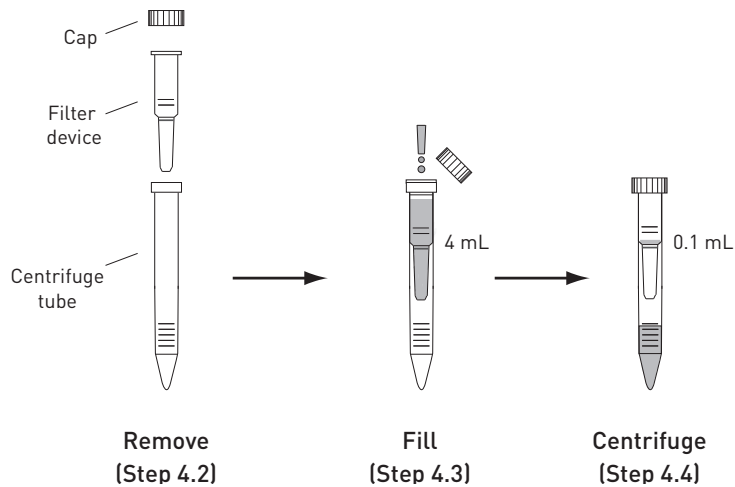

Figure 5 Wash the antibody concentrator
- 4.3 Add 4 mL of 1X Tris, pH 7.0 (or TBS) to the large antibody concentrator (Component H) and replace the cap as shown in Figure 5.